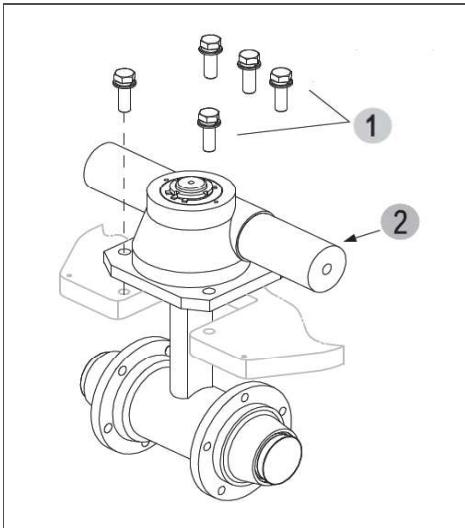

Figure 5-5 Rear Steering Axle Mounting
8. Remove the five bolts (1, Figure 5-5).
9. The rear steering axle (2) is heavy so make sure to secure it so that it doesn't fall when you remove it from the chassis.